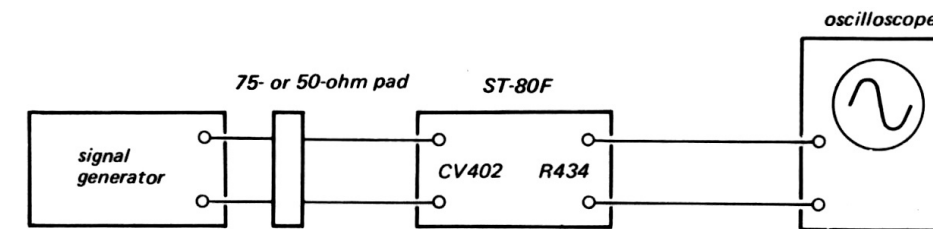

Fig. 5-16. A-m i-f alignment by rf signal generator test setup
- With the equipment connected as shown in Fig. 5-16, turn the top core of IFT 401 to obtain the maximum output.